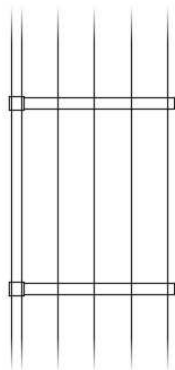

FIGURE 5.24: The stairs created using the COPY command
12. Verify that the preview looks like Figure 5.24, and then press **↵** to accept the array. The COPY command ends, and your stairs are drawn.